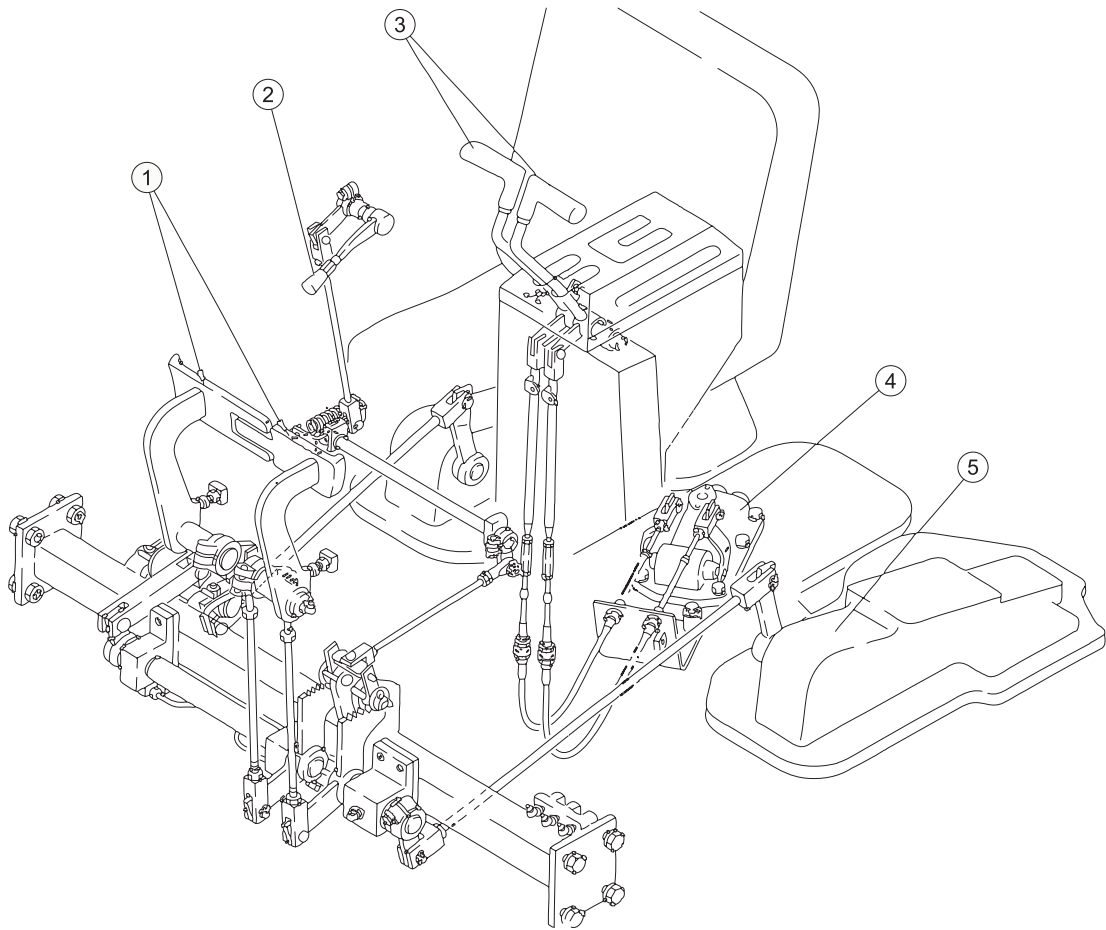

Figure 3-40
3.9.2 STEERING (SEE FIGURE 3-40)